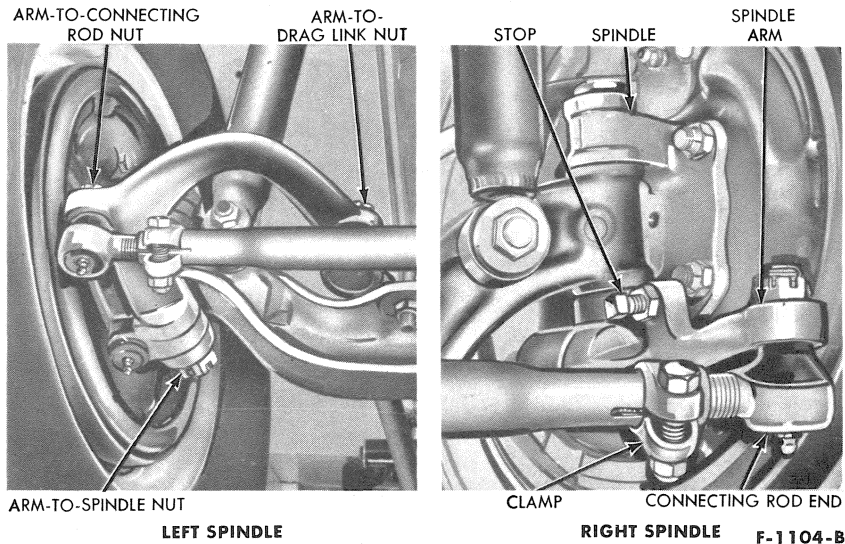

FIG. 6—Spindle Arm Connections
6. Assemble the ends of the spindle connecting rod (with seals) to the spindle arms, and install the attaching nuts and cotter pins (Fig. 6).
7. Connect the steering drag link to the left arm, and install the attaching nut and cotter pin (Fig. 6).
4. If the spindle is being replaced, remove the spindle arm-to-spindle attaching nut and cotter pin; then drive the spindle arm from the spindle with a soft hammer (Fig. 6). If the original spindle is to be installed, leave the arm assembled to the spindle, but disconnect the spindle arm from the connecting rod end using the tool shown in Fig. 5. On a left spindle, also disconnect the steering drag link from the spindle arm using the same tool.
If the original spindle is being installed with the arm assembled, connect the spindle arm to the connecting rod end. On a left spindle, also connect the steering drag link to the spindle arm (Fig. 6).
8. Adjust the toe-in, tighten the spindle connecting rod clamps, and adjust the right and left steering stops (Fig. 6) to specification (Part 3-7).